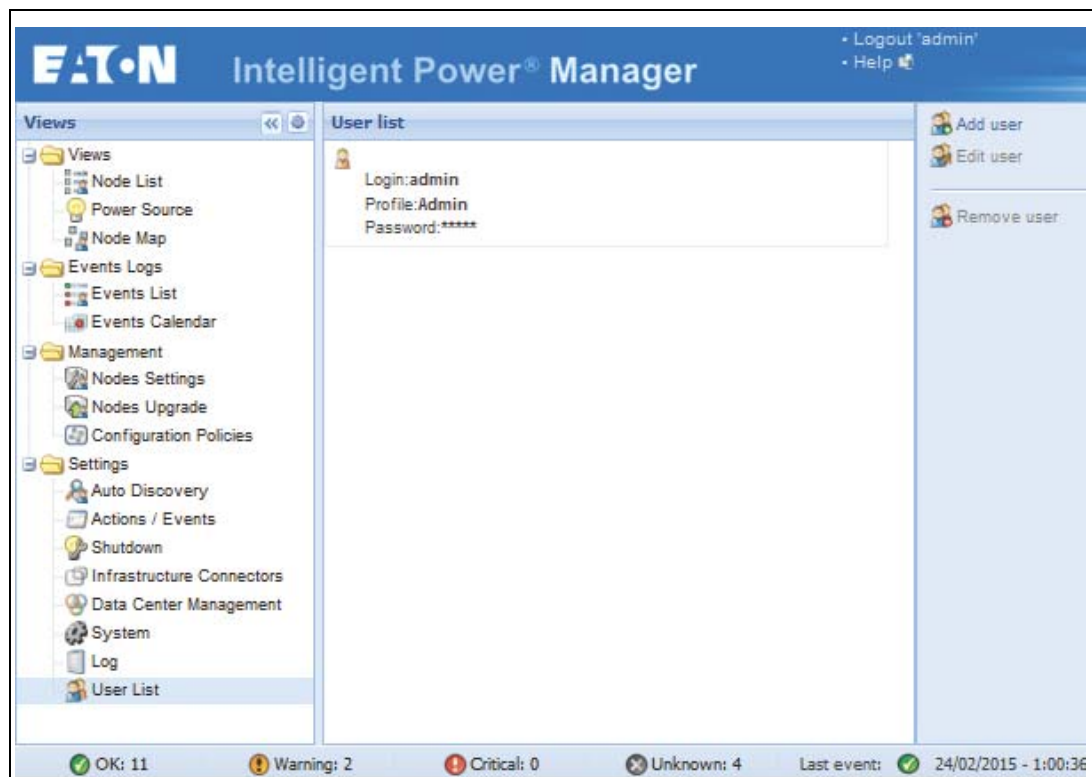

Figure 21. User List Page for User Account
1. From the left-side **Views** panel of the Eaton IPM main interface window, select the **Settings > User List** menu item. The User List page displays (see Figure 21).